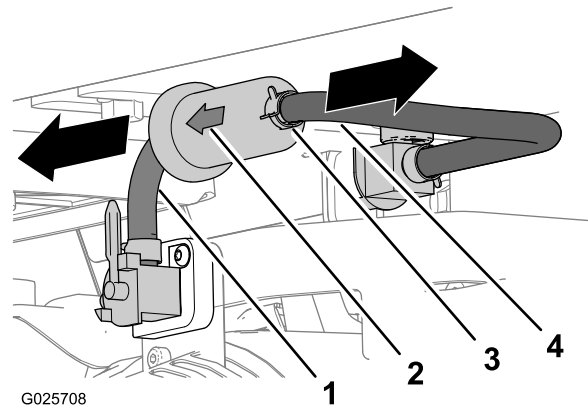

Figure 27
6. Remove the hose clamps and hose from the barbed fitting at fuel filter (Figure 27).
7. Align the arrow on the case of the new fuel filter to point toward the hose attached to the engine switch (Figure 27).
8. Insert the barbed fitting of the fuel filter into the hose from the engine switch (Figure 27).
9. Insert the barbed fitting at the other end of the fuel filter into the hose attached to the tank-shutoff valve (Figure 27).